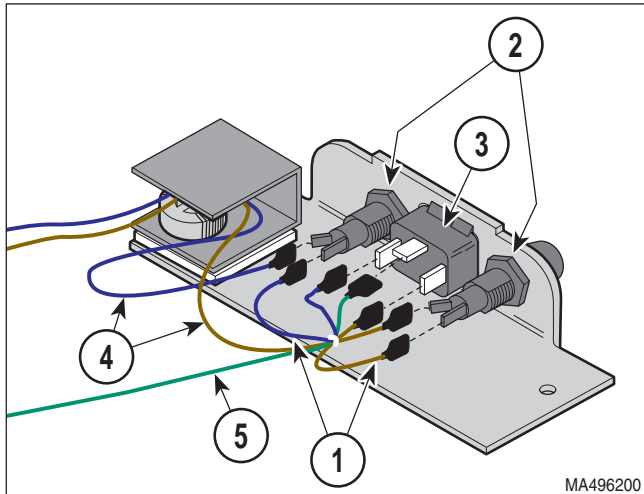

Figure 4-62. Choke Assembly Inlet Harness Connection / Disconnection
- (2) Tag and disconnect two wires (1, Figure 4-62) from terminals of two fuse holders (2) and AC receptacle (3).
- (3) Tag and disconnect two wires (4) from terminals of two fuse holders (2).
- (2) Rotate choke mount (1) counter-clockwise 90°.
- (3) Connect two wires (1, Figure 4-62) to proper terminals of two fuse holders (2) and AC receptacle (3).
- (4) Connect two wires (4) and ground wire (5) to terminals of AC receptacle (3).
- (5) Install power inlet bracket. (Refer to: Installation - steps 3 thru 7 of para 4.45).